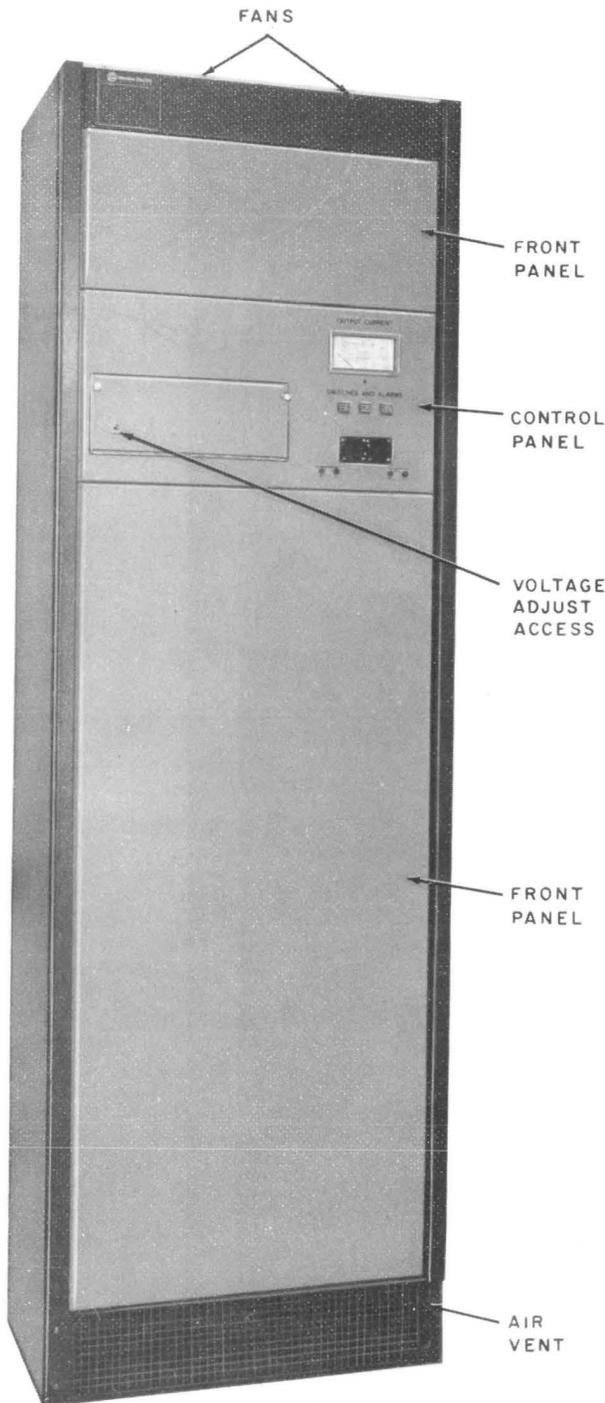

Fig. 3—KS-21113 L1 Rectifier-Covers in Place
- (2) Depress the POWER ON/POWER OFF pushbutton one time.
- (3) Connect the KS-20599 multimeter at the test jacks on the rectifier labeled + REG and - REG.
**Note:** Output voltage may be adjusted if necessary by rotating the potentiometer adjustment that is accessible through the small hole in the control panel (see Fig. 3).